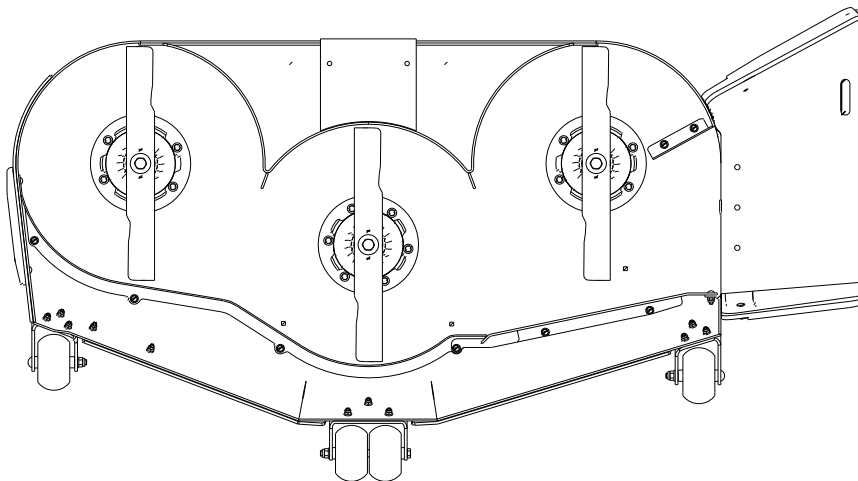

Fig. 6
5. Make sure the blades are positioned as shown in Fig. 6.